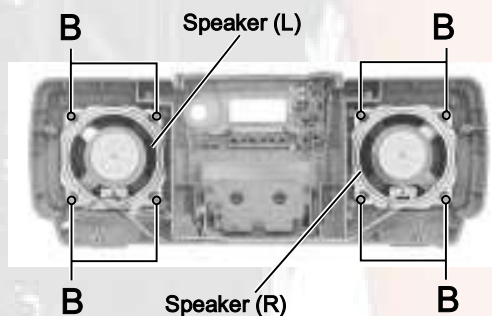

Fig.4
■ Removing the speaker (L) and (R) (See Fig.4)